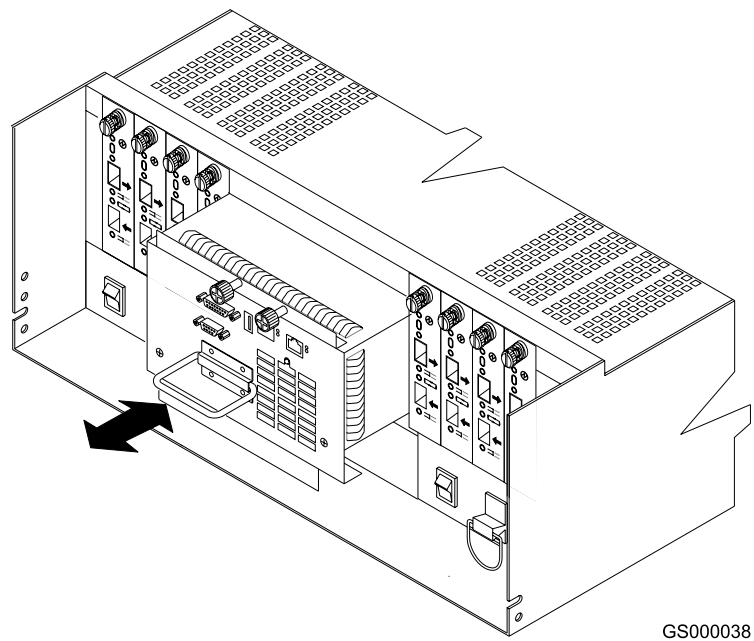

Figure 43. Removing and installing a fan and communications module
The fan and communications module is a single, removable unit that contains two cooling fans and two Ethernet ports. This module plugs into a slot at the center back of the FAStT900 Storage Server, just above the power supplies (see Figure 43 on page 49). It has two captive screws and a rectangular handle for securing and removing the fan and communications module. The module contains dual fans that provide a redundant cooling system to both power supplies. If one fan within the module fails, the other continues to operate. A single fan provides sufficient air circulation to prevent the power supplies from overheating until you can replace the entire fan and communications module.
2. Use Figure 43 as a guide and perform the following steps to remove the failed fan and communications module from the FAStT900 Storage Server.